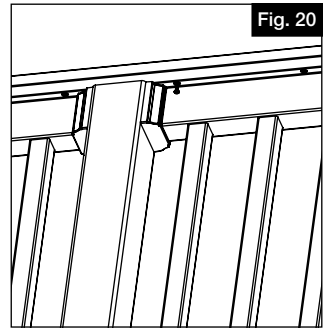

Fig. 20
- b. Drive #10 x $\frac{3}{4}$ " screws up from under rail centered through slotted holes and into deck board (Fig. 20).